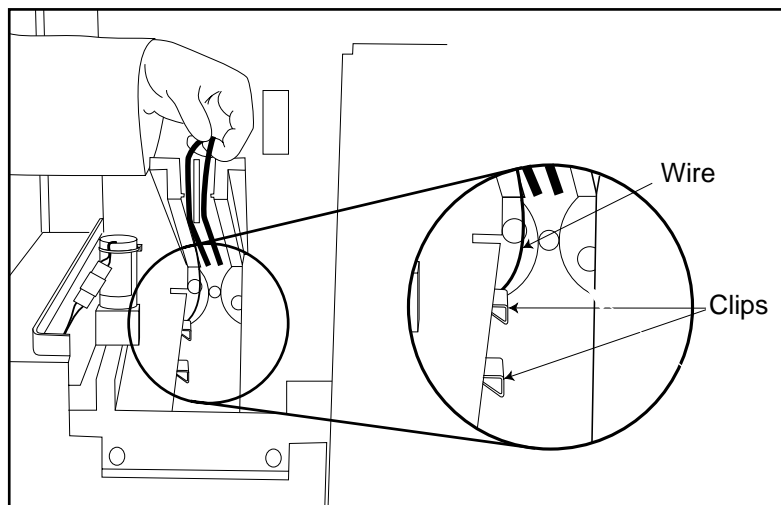

Figure 9.8
6. Using your right hand, carefully grasp the two sensor wires and free them from the restraining clip. This clip is affixed to the underside of the load module. Though out of view, the clip is easy to locate (Figure 9.8).